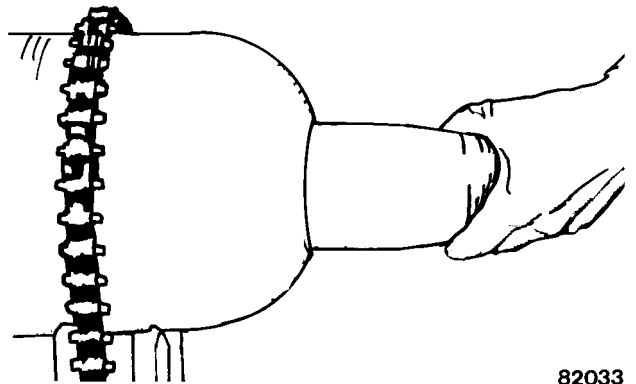

FIGURE 3-20. BLADDER REMOVAL
11. Grasp heel of the bladder and withdraw from shell. (Refer to Figure 3-20).